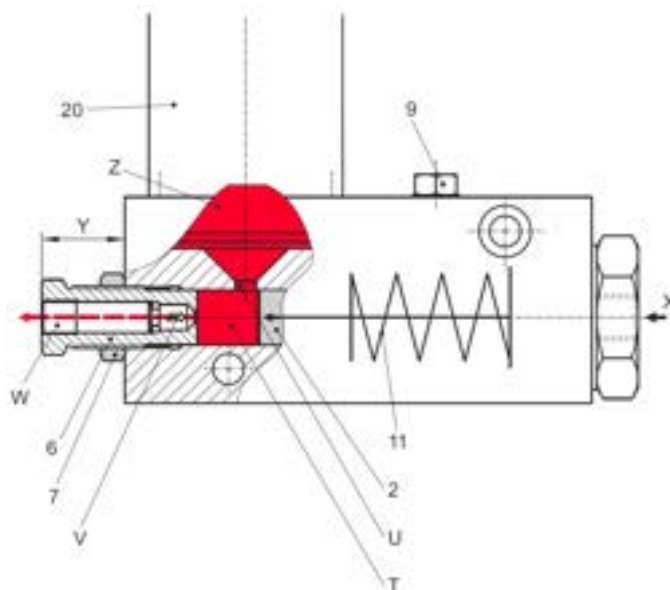
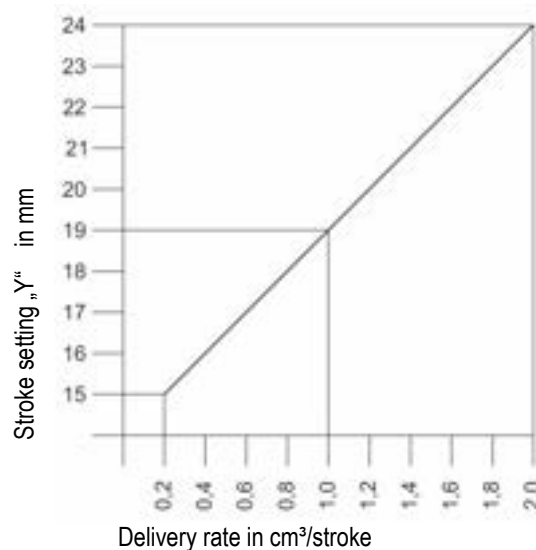

Fig.2
Fig.3
A high-pressure hose with hose connections has to be mounted into the connection at the lubrication outlet (W, Fig.2) for the lubrication line.
Put a bypass line from the hydraulic system of the carrier unit to the hydraulic connection of the device (X, Fig.2)
The delivery rate can be set progressively via the setscrew (6, Fig.2) for the delivery rate within a range from 0,2 to 2,0 cm³/stroke. Normally the delivery rate is preadjusted to 2,0 cm³/stroke. Dimension Y determines the flow rate of the device (see Fig.3).
- Release lock nut (7, Fig.2)
- Set delivery rate via the setscrew (6, Fig.2)
- Unscrew grease cartridge (20, Fig.2) counter-clockwise out of the pump housing (1, Fig.2).
- Ventilation is done by operating the system in pressureless condition and with open system outlets. Remove the pressure line from the set screw (6, fig. 2).
- Release ventilation screw (9, Fig.2) (it is not necessary to turn it out completely).
All stated positions to Fig.2 (page 7)